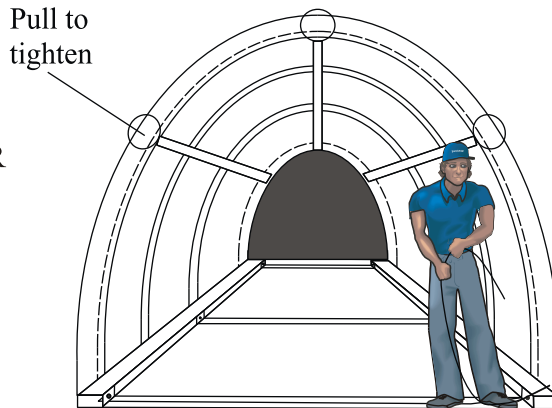
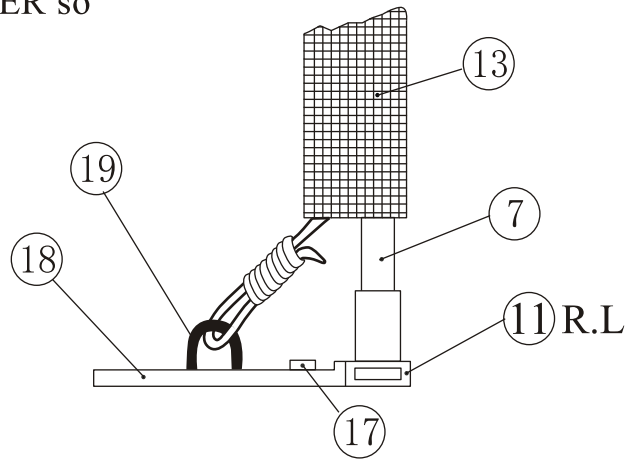

FIGURE 4-1
FIGURE 4-2
Step 1: See Figure 4-1 and Figure 4-2. Pull the ROOF COVER (#13) over the frame. Attach the Front and Rear Rope of the TARPAULIN to the FASTENING ROPE HANGING RINGS (#19) at each corner.
Step 2: Position the ROOF COVER so that 10cm hangs over in the front and rear. Pull tight at the positions marked "○" attach the frame parentetical as shown in Figure 4-1. Do tight the Rope. See Figure 4-2.